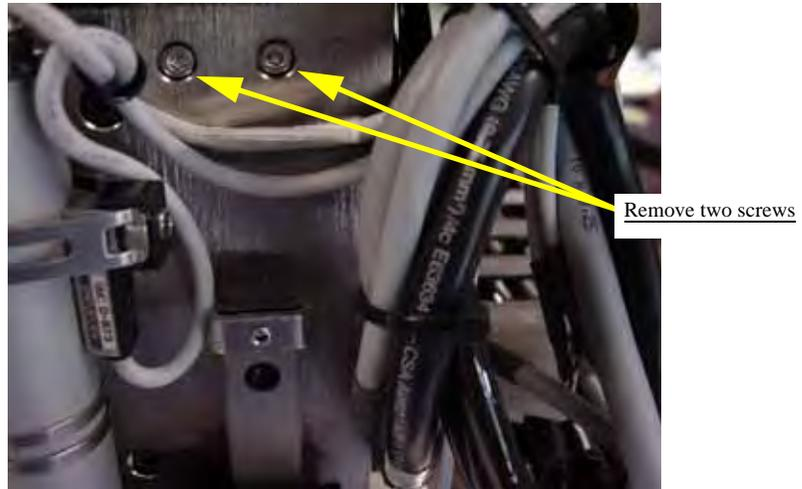

Figure 5-65—Removing upper screws
- 4b) Using a 2.5 mm Allen wrench, remove the two upper screws that hold the PNP head in place. See *Figure 5-65*.